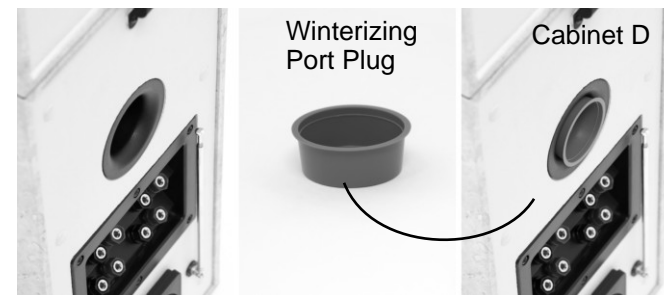

Fig. 12
- Use the large ~2" "winterizing" port plug provided with your system to plug the bass/air exhaust port on the back of the AM/FM/CD player cabinet (cabinet D). See Fig. 12 below. This plug prevents heat loss and is required - just be sure to remove it the next time you play your stereo!;